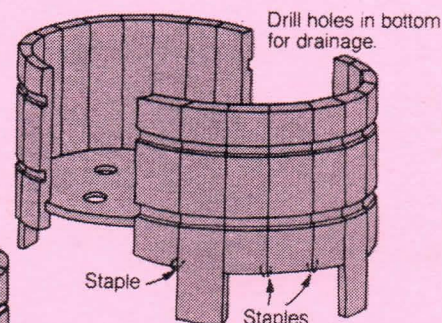

Figure 2 (above) shows how to put the base and side staves together. Figure 3. (left) shows attaching the permanent bands to hold the tub together.
4. Reset the dado head to make a ½" wide (½" wide for ½" plywood base) by ¾" deep cut to hold the base. Make this cut on the inside (narrower) faces of all staves 13½" from the top. See Figure 2.